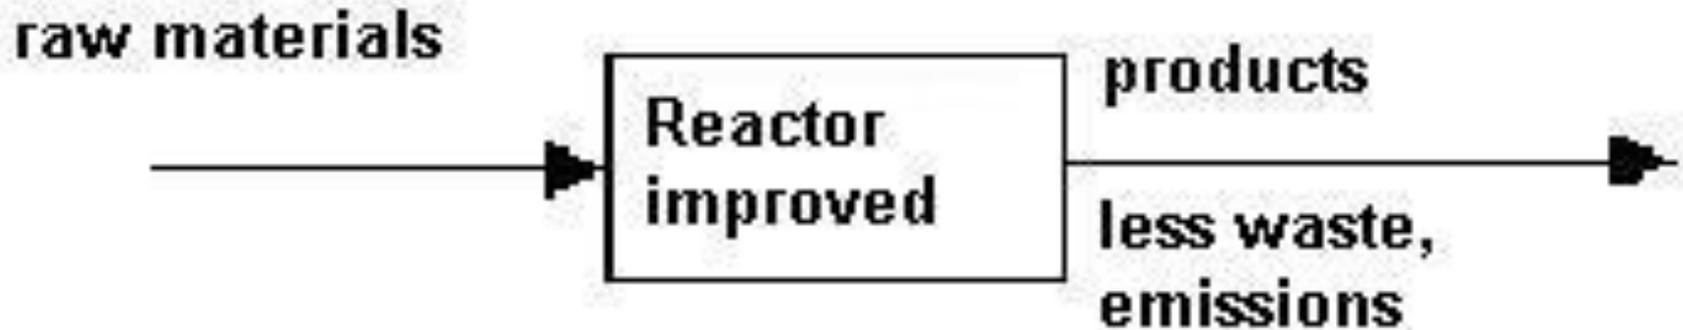

Fig. 5.3. Industrial system represented by a modified reactor, with minimized waste quantity
- ***source reduction*** can be carried out by changing the reactor conditions so that its performance is improved and the waste quantity and emissions are diminished (Fig.5.3)